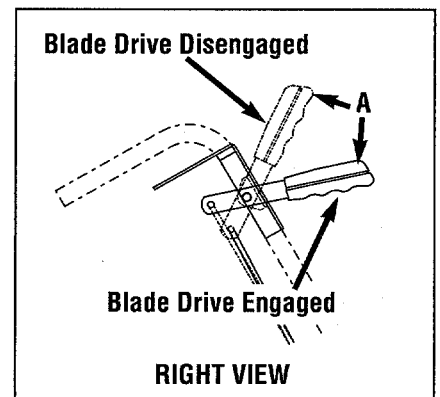
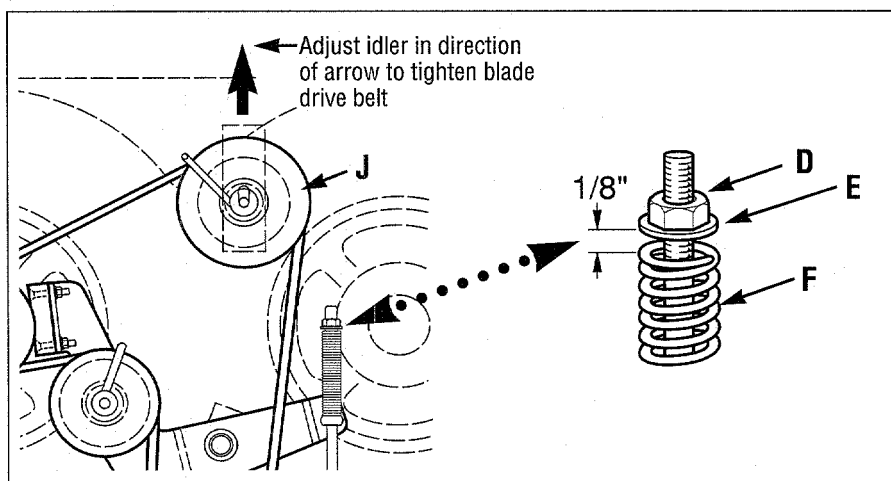

Figure 5-7: Blade Drive Control.
Figure 5-9: Blade drive adjustment.
2. Disengage blade drive control (Figure 5-7) by releasing all controls on the mower.
2. Have an assistant hold down Operator Presence Control and then push the Blade Drive Control forward until it latches in place (Figure 5-7).
3. With the Blade Drive Control lever engaged, adjust and tighten belt guide (B) to 1/32 - 1/16" away from tensioned belt. (Be sure that belt does not contact belt guide when belt is under tension.) Secure belt guide (C) rotated against idler arm (I).
5. Reinstall flap bracket (N) with two screws (M).
4. With the Blade Drive Control (Figure 5-7) in the disengaged position, set a gap of 1/8" between the spring (F, Figure 5-9) and flat washer (E) by adjusting the nut (D).
7. If the drive belt slips during operation, it may be necessary to relocate idler (J, Figure 5-9) in the slot provided in the mounting bracket. **With the engine stopped and the spark plug wire disconnected**, loosen the hardware on the idler (J) and slide it forward to take up slack in the belt.